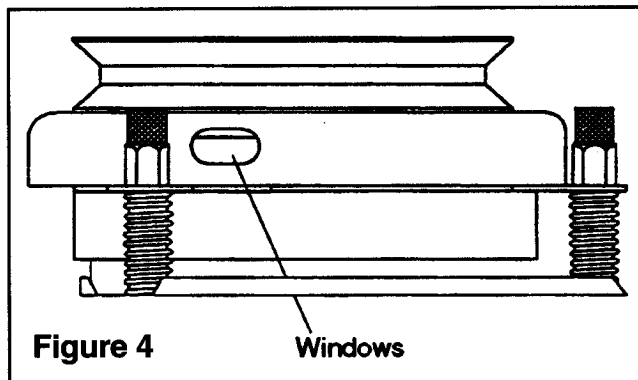

Figure 4
2. Locate the three "windows" or "notches" where the airgap is checked (see figure 4).